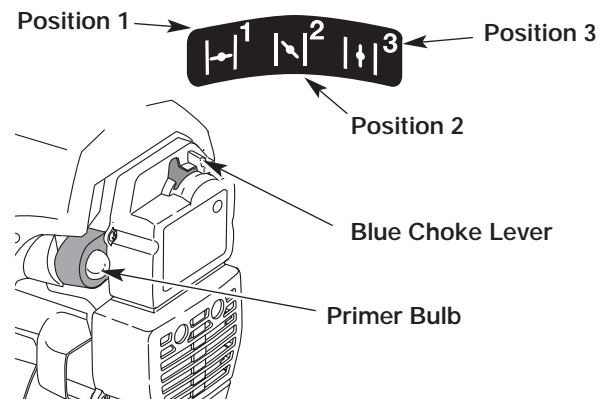

Fig. 11
2. Fully press and release the primer bulb 10 times, slowly. Some amount of fuel should be visible in the primer bulb and fuel lines (Fig. 11). If you can't see fuel in the bulb, press and release the bulb as many times as it takes before you can see fuel in it.
3. Place the blue choke lever in Position 1 (Fig. 11).